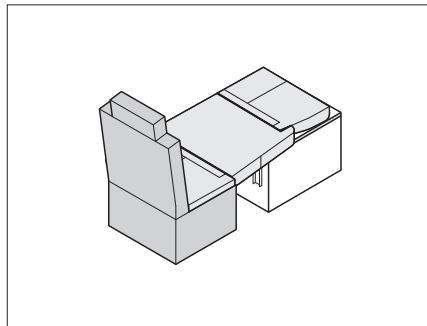

Fig. 213 Positioning the seat cushions
- Place the seat and additional cushion onto the lowered table as illustrated in Fig. 213.